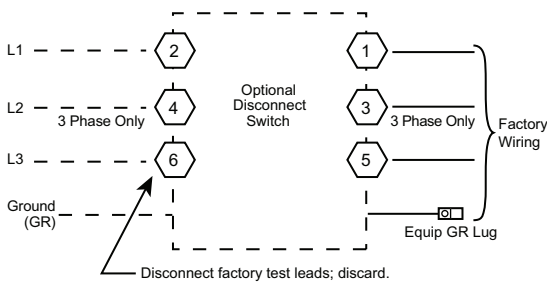

Fig. 25 — Power Wiring Connections
The field power wires are connected to the unit at line-side pressure lugs on compressor contactor C and indoor fan contactor IFC (see wiring diagram label for control box component arrangement) or at factory-installed option non-fused disconnect switch or HACR. Maximum wire size is #2ga AWG (copper only) per pole on contactors and #2ga AWG (copper only) per pole on optional disconnect or HACR. See Fig. 25 and unit label diagram for field power wiring connections.
The factory-installed option non-fused disconnect (NFD) or HACR switch is located in a weatherproof enclosure located under the main control box. The manual switch handle and shaft are shipped in the disconnect or HACR enclosure. Assemble the shaft and handle to the switch at this point. Discard the factory test leads (see Fig. 25).
All field wiring must comply with NEC and all local codes. Size wire based on MCA (Minimum Circuit Amps) on the unit informative plate. See Fig. 25 and the unit label diagram for power wiring connections to the unit power terminal blocks and equipment ground. Maximum wire size is #2ga AWG (copper only) per pole on contactors. See Fig. 25 and unit label diagram for field power wiring connections.
2. Install power lines to terminal connections as shown in Fig. 25 on page 16.